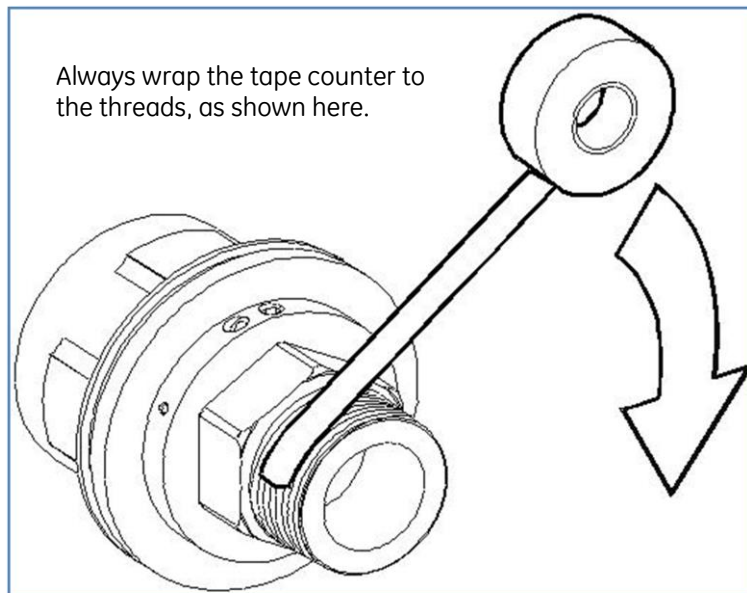

Figure 5-5: Wrap the Sensor's Threads with PTFE
4. Wrap PTFE tape on the sensor's threads. See Figure 5-5.